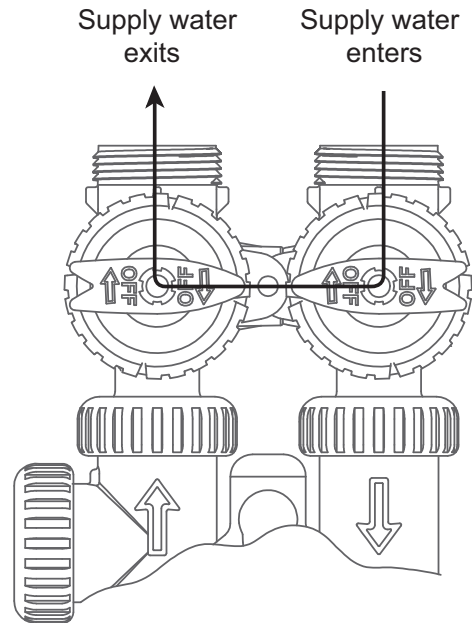

Figure 2 Bypass Position
- b. Bypass Position:** The inlet and outlet handles point to the center of the bypass. The system is isolated from the water pressure in the plumbing system. Untreated water is supplied to the building. Refer to Figure 2.
- After installation is complete, rotate bypass handles to bypass mode, refer to Figure 2.